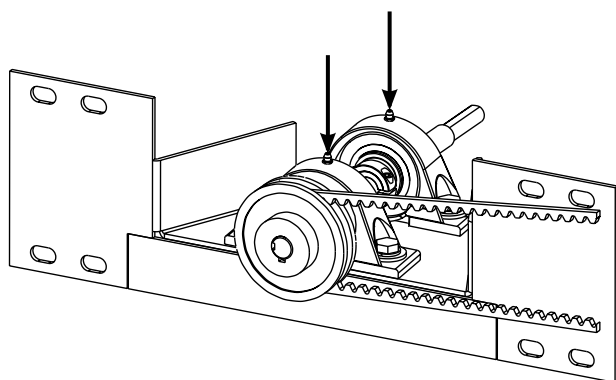

Figure 4-43.
Grease the two (2) main blower fan shaft bearings (Figure 4-43), using a special grease (MMP/N 17110-0015 lithium-base, high-temperature grease). **ONLY ONE STROKE** of a grease gun is required for each bearing.